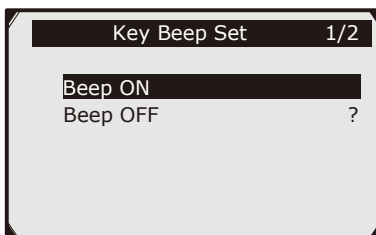

Figure 3.7
2. From **Key Beep Set** menu, use the **Up/Down** scroll button to select **Beep ON** or **Beep OFF**. (See Figure 3.7)